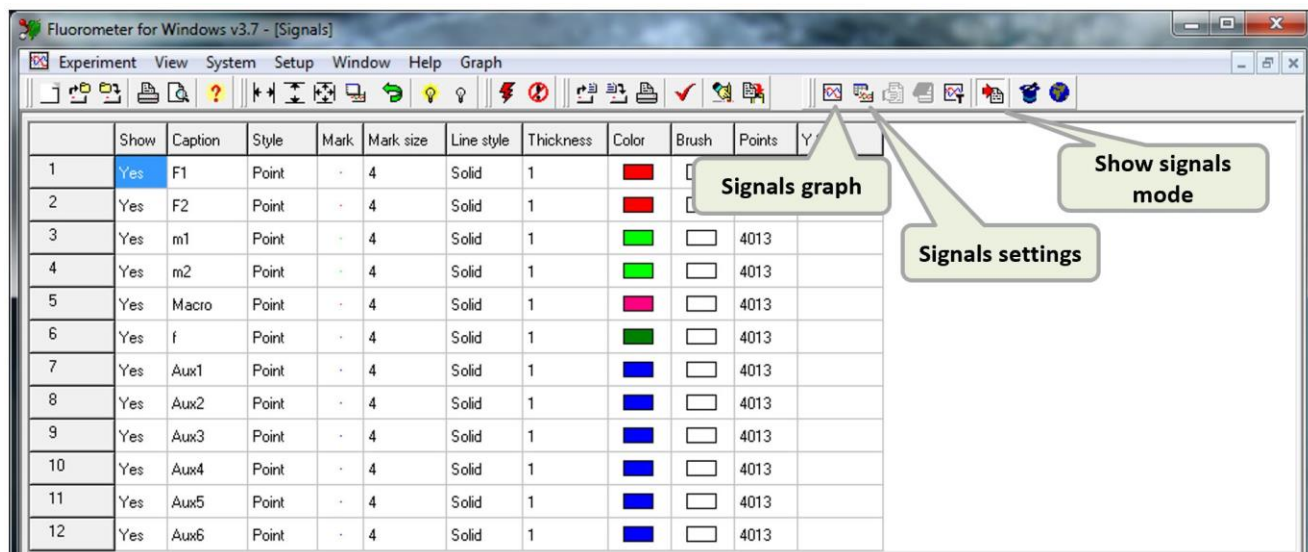

Fig. 33 Signals setting.
- Each successfully compiled Current protocol script can be visualized using the **Show signals** icon (F4). Graph and DataSet table icons behave than in “Show signals” mode. DataSet table shows the list of accessible TTL signals, which can be displayed in the graph window (with the help of Graph icon now). Each row has predefined Caption with the respect of the protocol script commands (Fig. 33).